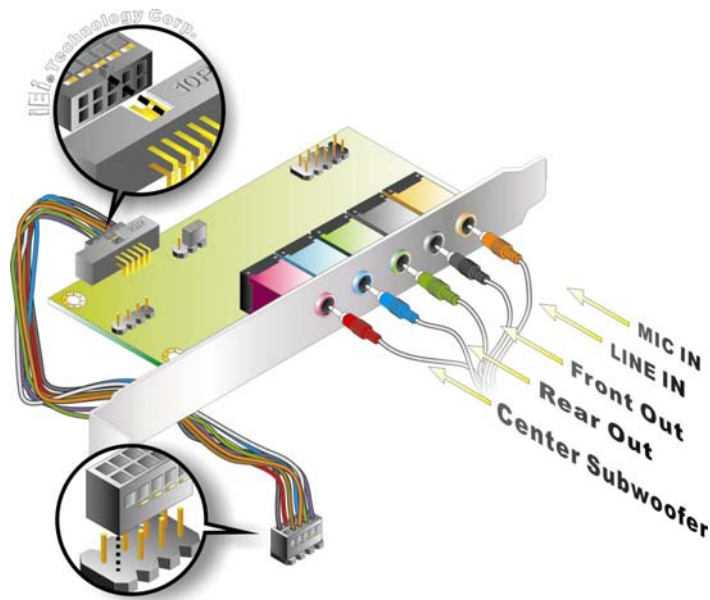

Figure 4-14: 7.1 Channel Audio Kit
- Step 3: Align pin 1.** Align pin 1 on the on-board connector with pin 1 on the audio kit cable connector. Pin 1 on the audio kit cable connector is indicated with a white dot. See **Figure 4-14**.